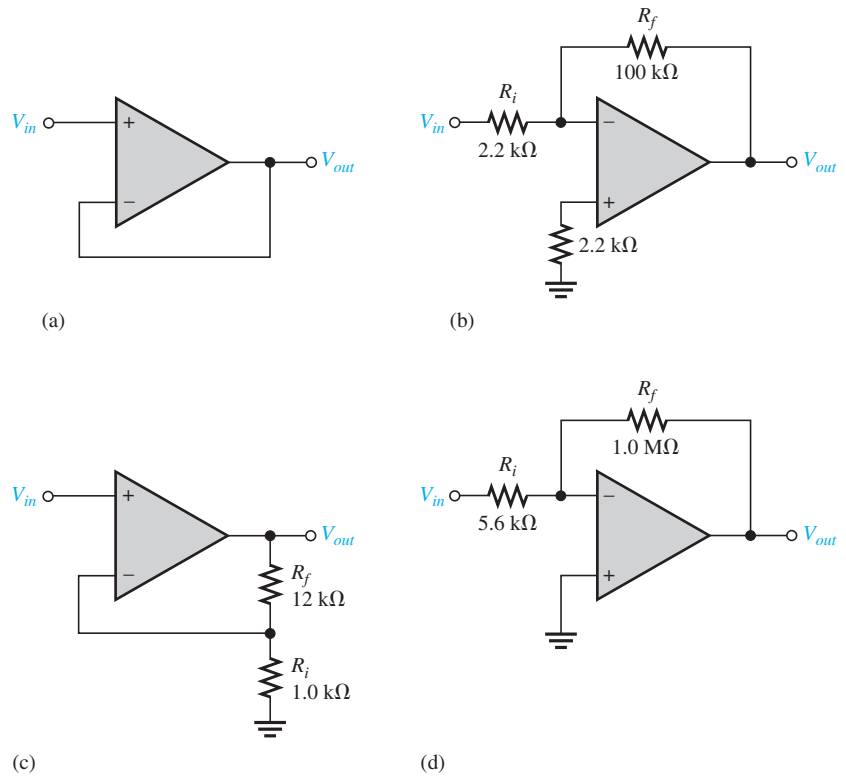

FIGURE 7-28
- For each amplifier in Figure 7-28, determine the closed-loop gain and bandwidth. The op-amps in each circuit exhibit an open-loop gain of 125 dB and a unity-gain bandwidth of 2.8 MHz.